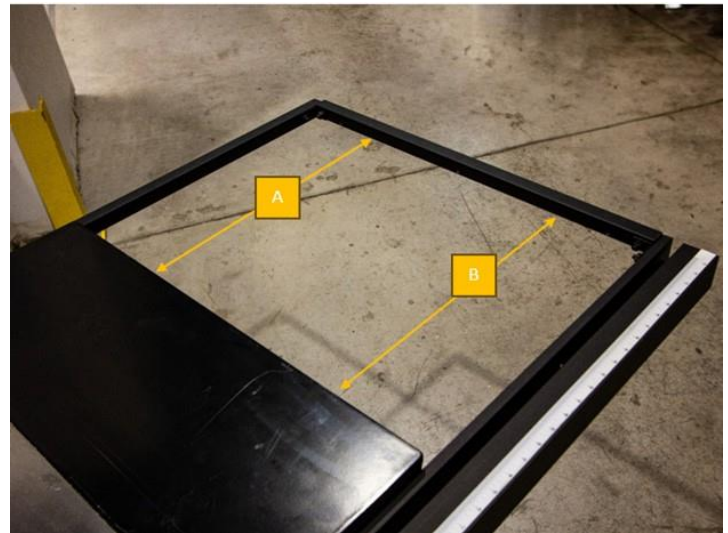

Figure 26: Fence back brace installed.
32 - Measure distance (A) from table edge to rear end of fence rail brace, then adjust front end of fence rail brace so it is the same distance (B) from table edge (see Figure 26).